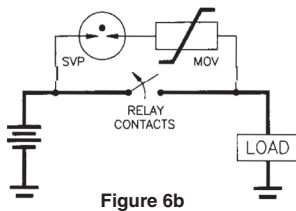

Figure 6b
- Figure 6b indicates an MOV in series with an SVP (Surge Voltage Protector — spark gap). The MOV absorbs transient overshoot energy, the SVP provides excellent dielectric once the circuit is open. This solution is also compact in size and low cost.